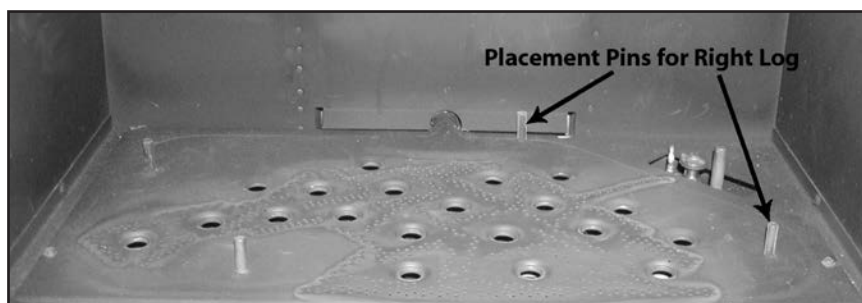

Figure 59: Step 1 of Log Placement.
2. Place the log set into the firebox. Locate each log by seating it down onto the burner tray support pins. Follow Figures 59 to 66 proper log placement.